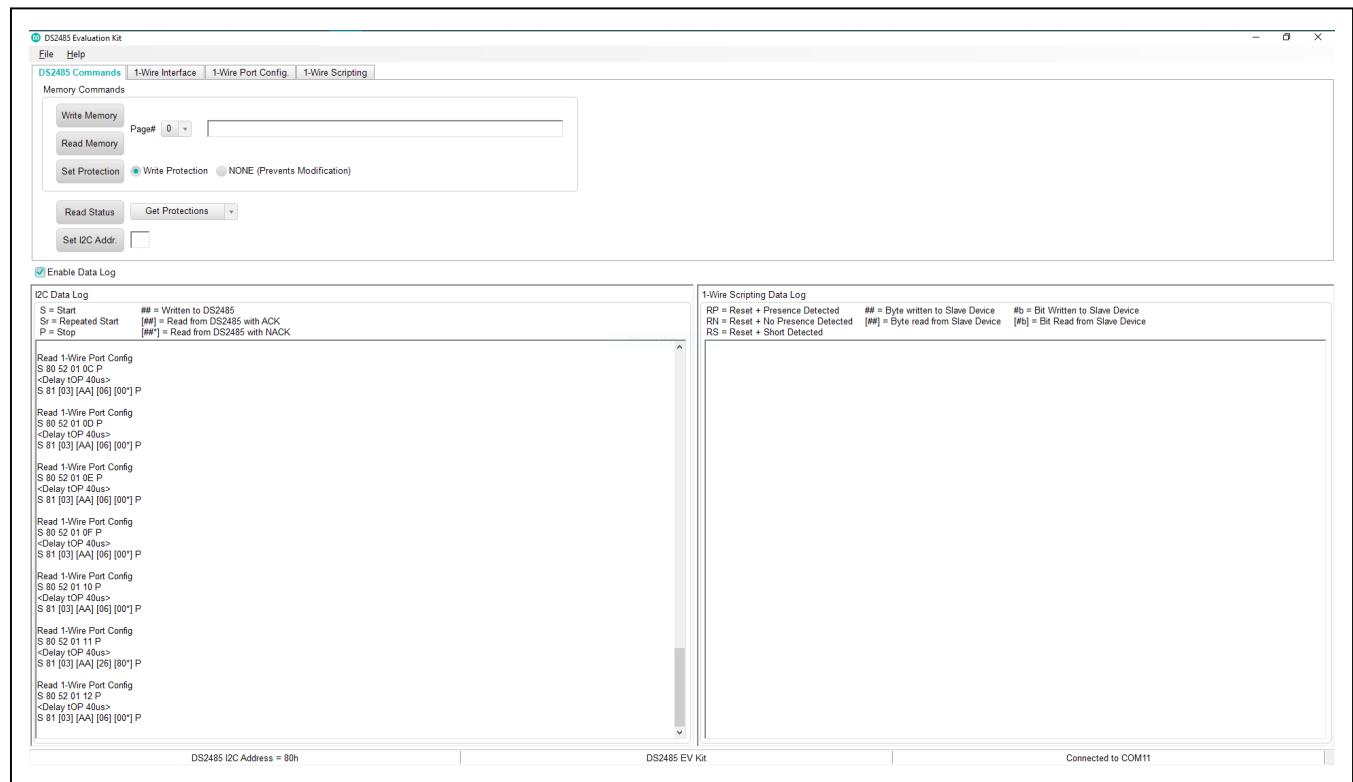

Figure 3. DS2485 Evaluation Kit Software
- 13) The EV kit software will automatically start after installation completes (Figure 3).